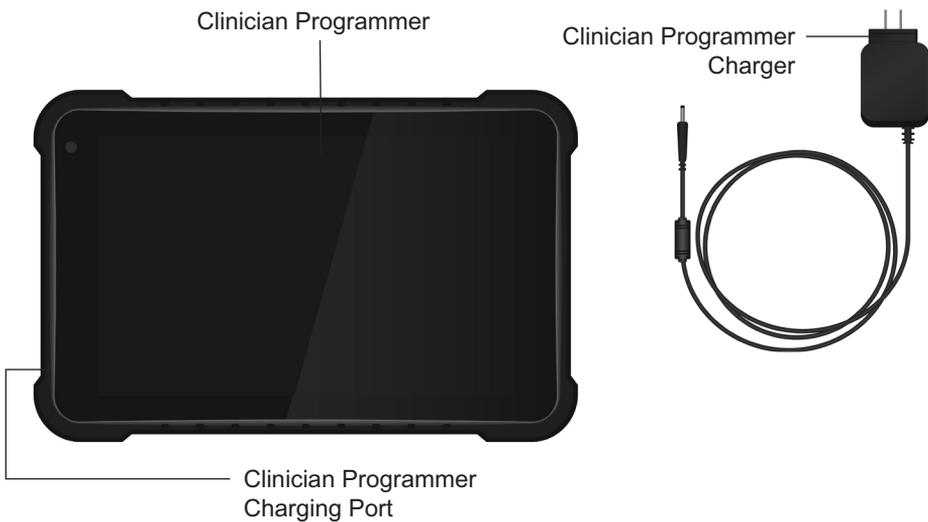

Figure 7-1: The Clinician Programmer set-up
1. Insert the Clinician Programmer Charger into the Clinician Programmer charging port and plug the charger into a power socket. See Figure 7-1.